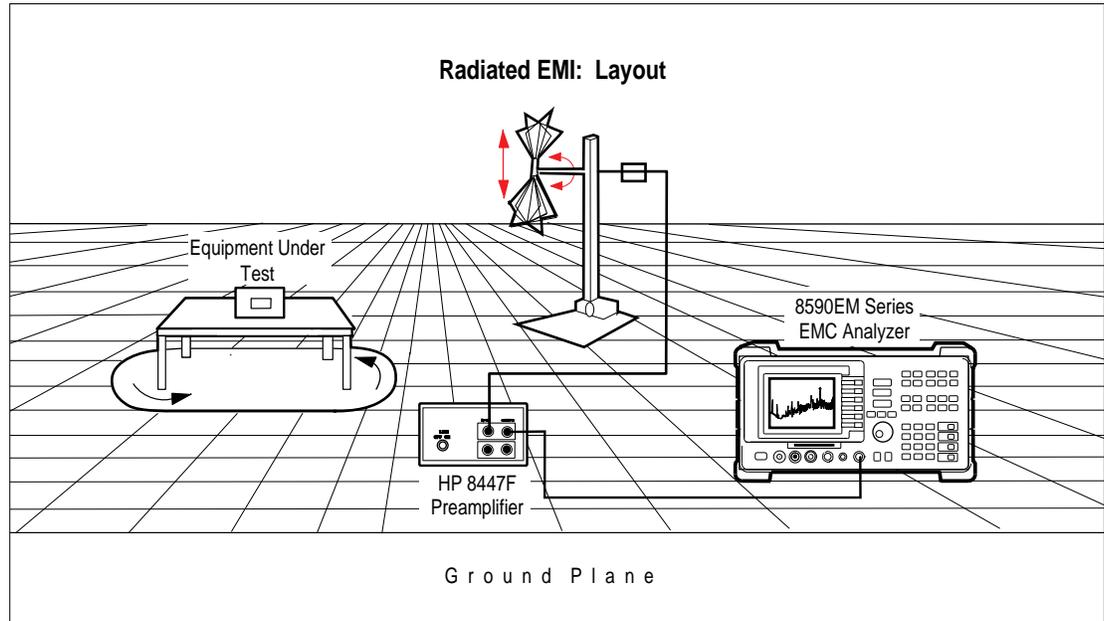

Figure 11. Radiated emissions test setup.
1. Arrange the antenna, EUT, and the EMC analyzer as shown in Figure 11. Separate the antenna and the EUT by 3 meters (10 meters if it is called out in the regulation. If space is limited, correct the results for the difference in distance from 3 to 10 meters which is 10.45 dB). It is important that the antenna is not placed in the "near field" which is $\lambda/2\pi$ away from the EUT or closer.